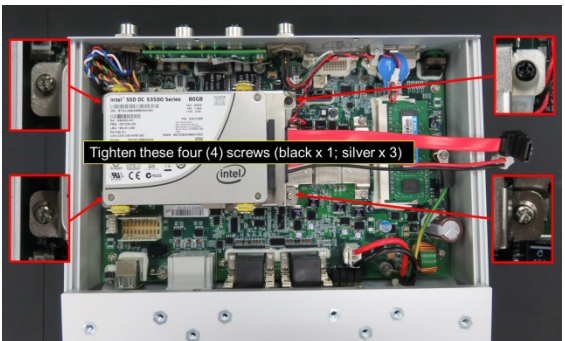

Figure 25
- 4.3.4 Use a Phillips screwdriver to tighten the four (4) screws to fix the HDD/SSD assembly to the board as shown in Figure 25.